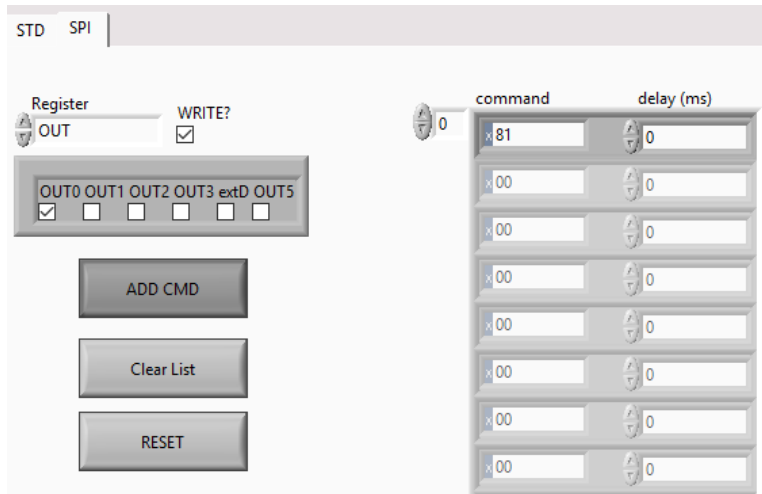

Figure 32 - Select OUT0 and add command
- Tick the WRITE?-Box and select OUT0 and click ADD CMD (See Figure 32)
- See Figure 32 above